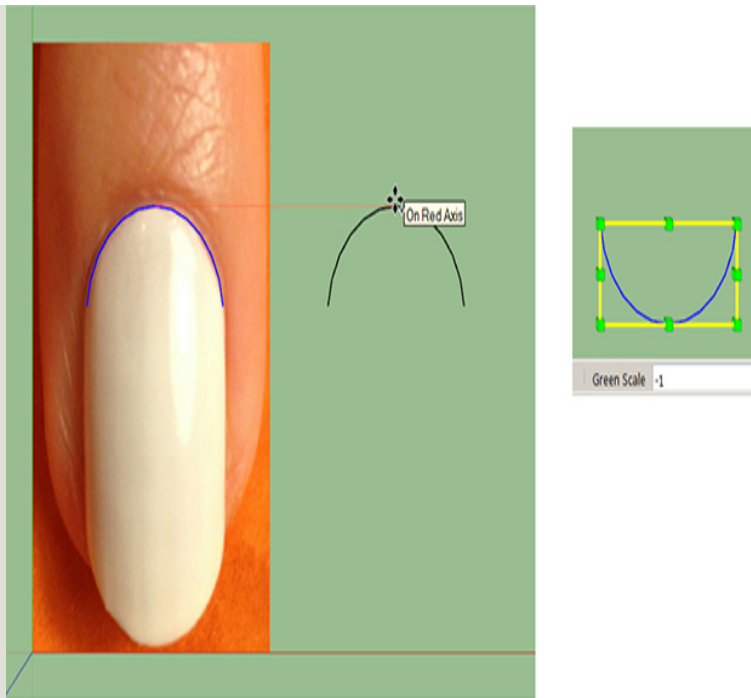

Figure 4-26 Copy the arc, and then mirror it with the Scale tool.
2. Copy and mirror the arc (Figure 4-26). Use MOVE + CTRL (or CTRL + C and CTRL + V) to copy it. In Chapter 3 we used Flip Along in the context menu for mirroring, but that function doesn't show up on a non-grouped arc. Instead, click the Scale tool on the arc, push the top-middle grip down a bit, and then type - 1. The arc will flip.